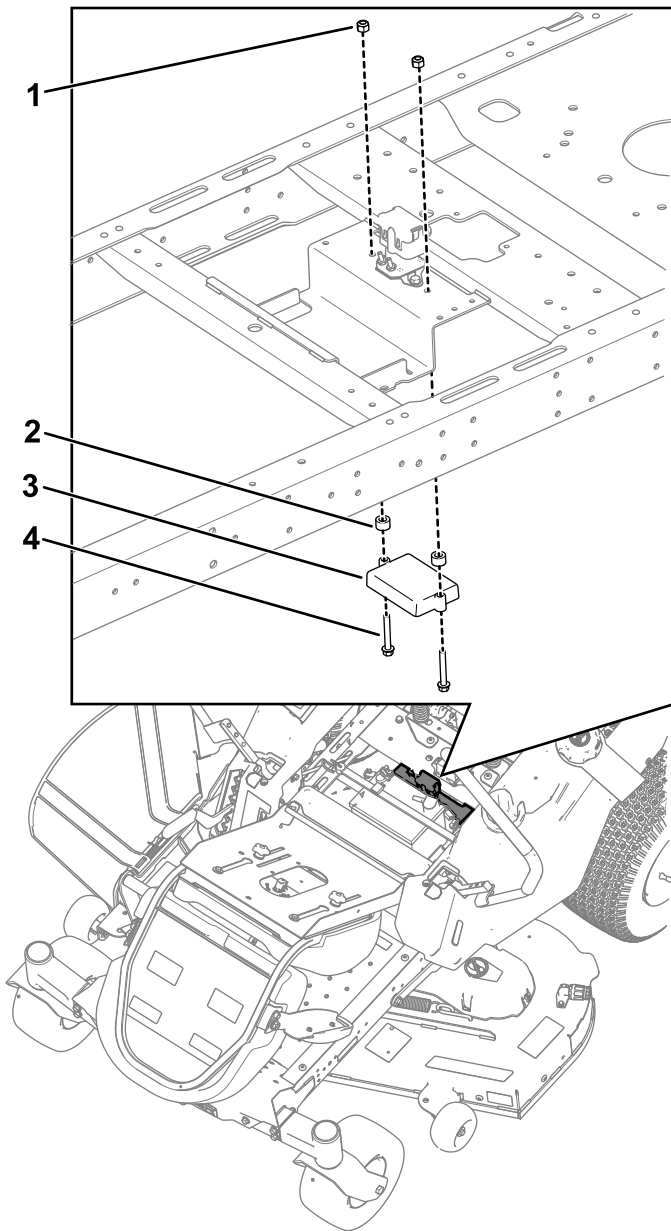

Figure 3
2. Install the sensor module under the battery tray using 2 bolts, 2 spacers, and 2 nuts (Figure 3).